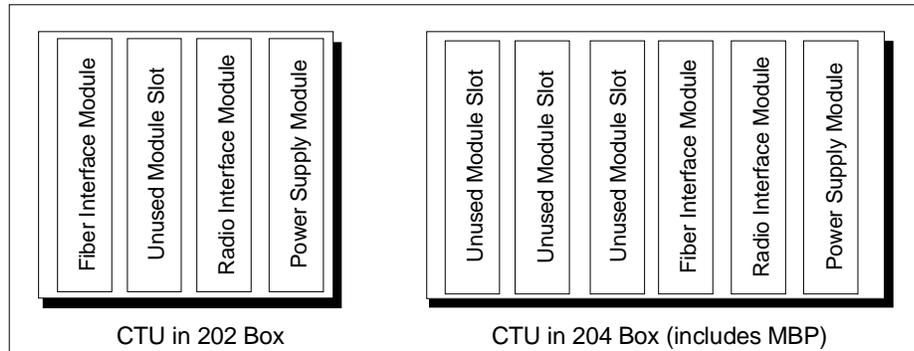

Figure 3-4, "CTU in 202 or 204 Box"
3. Insert the FIM in the vacated CIM slot. See Figure 3-4, "CTU in 202 or 204 Box" on page 19.